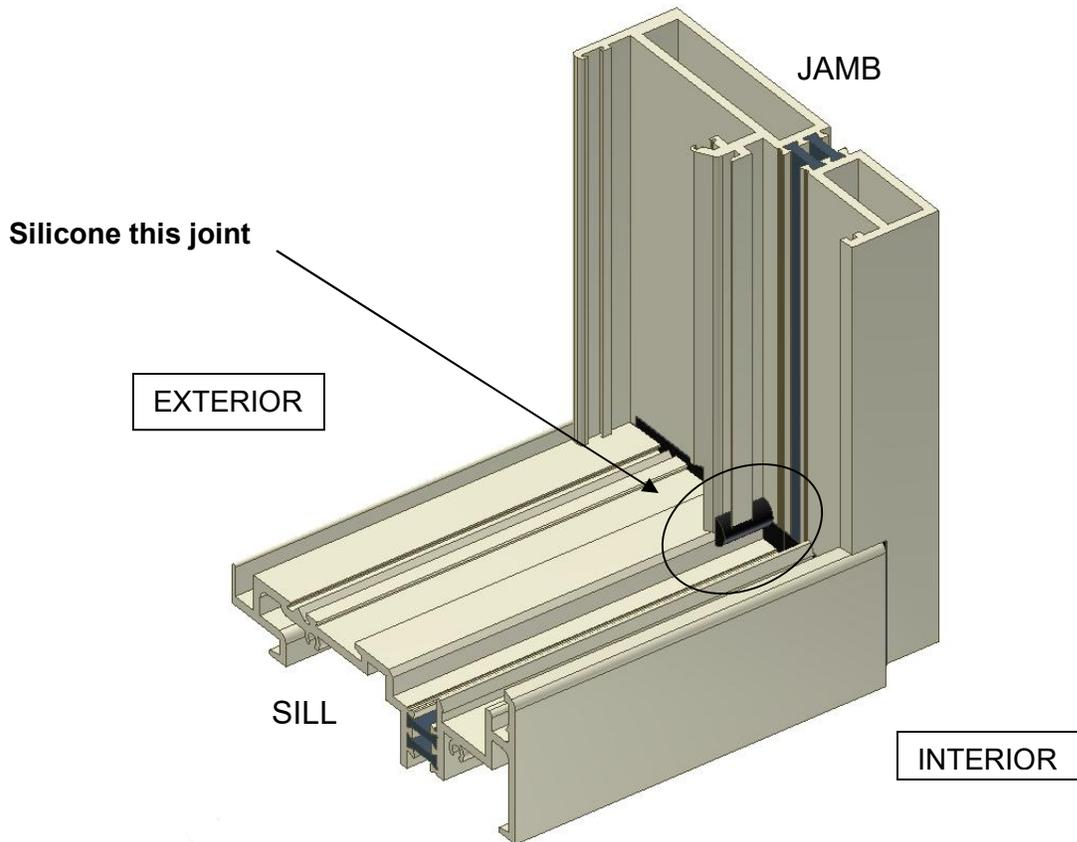

Fig.2
5. Seal all four frame corners as shown on the inside with silicone before installing the fixed panels. Silicone at this joint must be tooled to assure a watertight joint. (See Fig. 2)